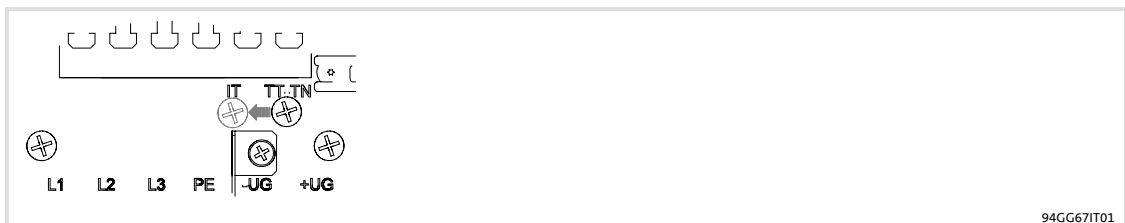

Fig. 4-20
1. Find the screw over terminals X100 (+UG/-UG) in the position "TT-TN" ( Fig. 4-20).